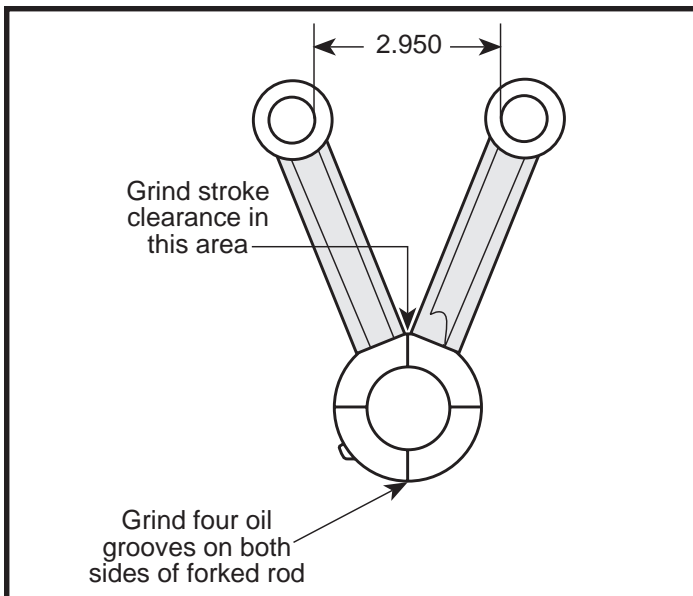

Figure 3
- To insure adequate oil on sides of rods and matching thrust surfaces of flywheels, S&S recommends that four grooves be ground on each side of both front and rear connecting rods. **See Figure 3.** Make these grooves .020" to .030" deep and .030" to .040" wide and should be ground 90° from each other. After making grooves, remove all sharp edges and burrs with emery cloth.
- With rods assembled, measure distance between rods at closest points in wristpin holes. If measurement exceeds 2.950" as shown in **Figure 3**, grind female rod at points where male rod makes contact to achieve sufficient clearance.